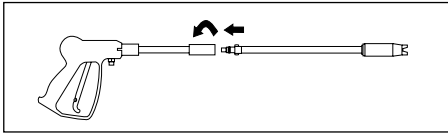

Figure 12 - Gun/Lance Connection
1. Insert lance into the gun and turn clockwise to positive stop as shown in Figure 12.